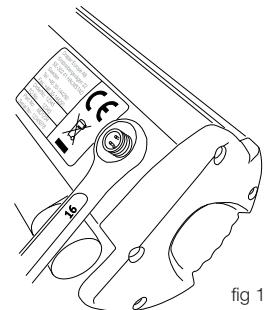

fig 14
**EN:** Loosen the locking nut (fig 14).